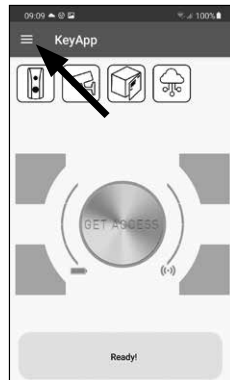

Fig. 37
- 2 Open the main menu (Fig. 37).